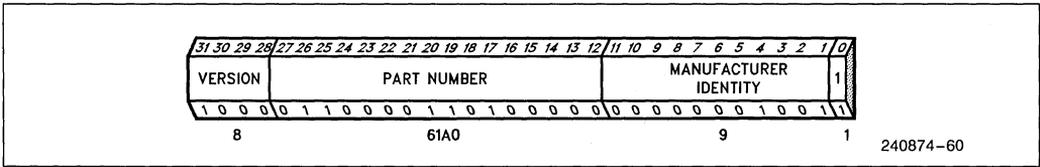

Figure 6.1. Format of DID Register
- **Device Identification Register (DID):** This register contains the manufacturer's identification code, part number code, and version code in the format shown by Figure 6.1. The values are: manufacturer's identification code (9), part number code (61A0), version code (8), entire 32-bit value (0x861A0013).